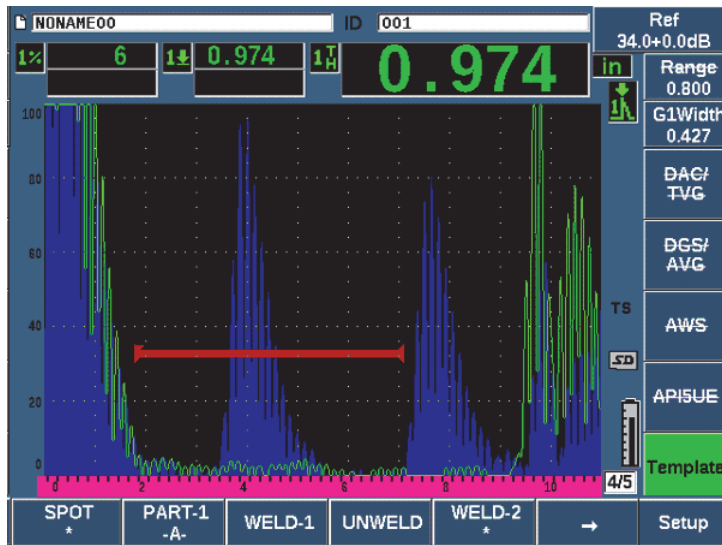

Figure 11-50 Stored template display in live screen
- ◆ Press one of the parameter keys (P1–P5) that appears with a * symbol below the template name (see Figure 11-50 on page 307).